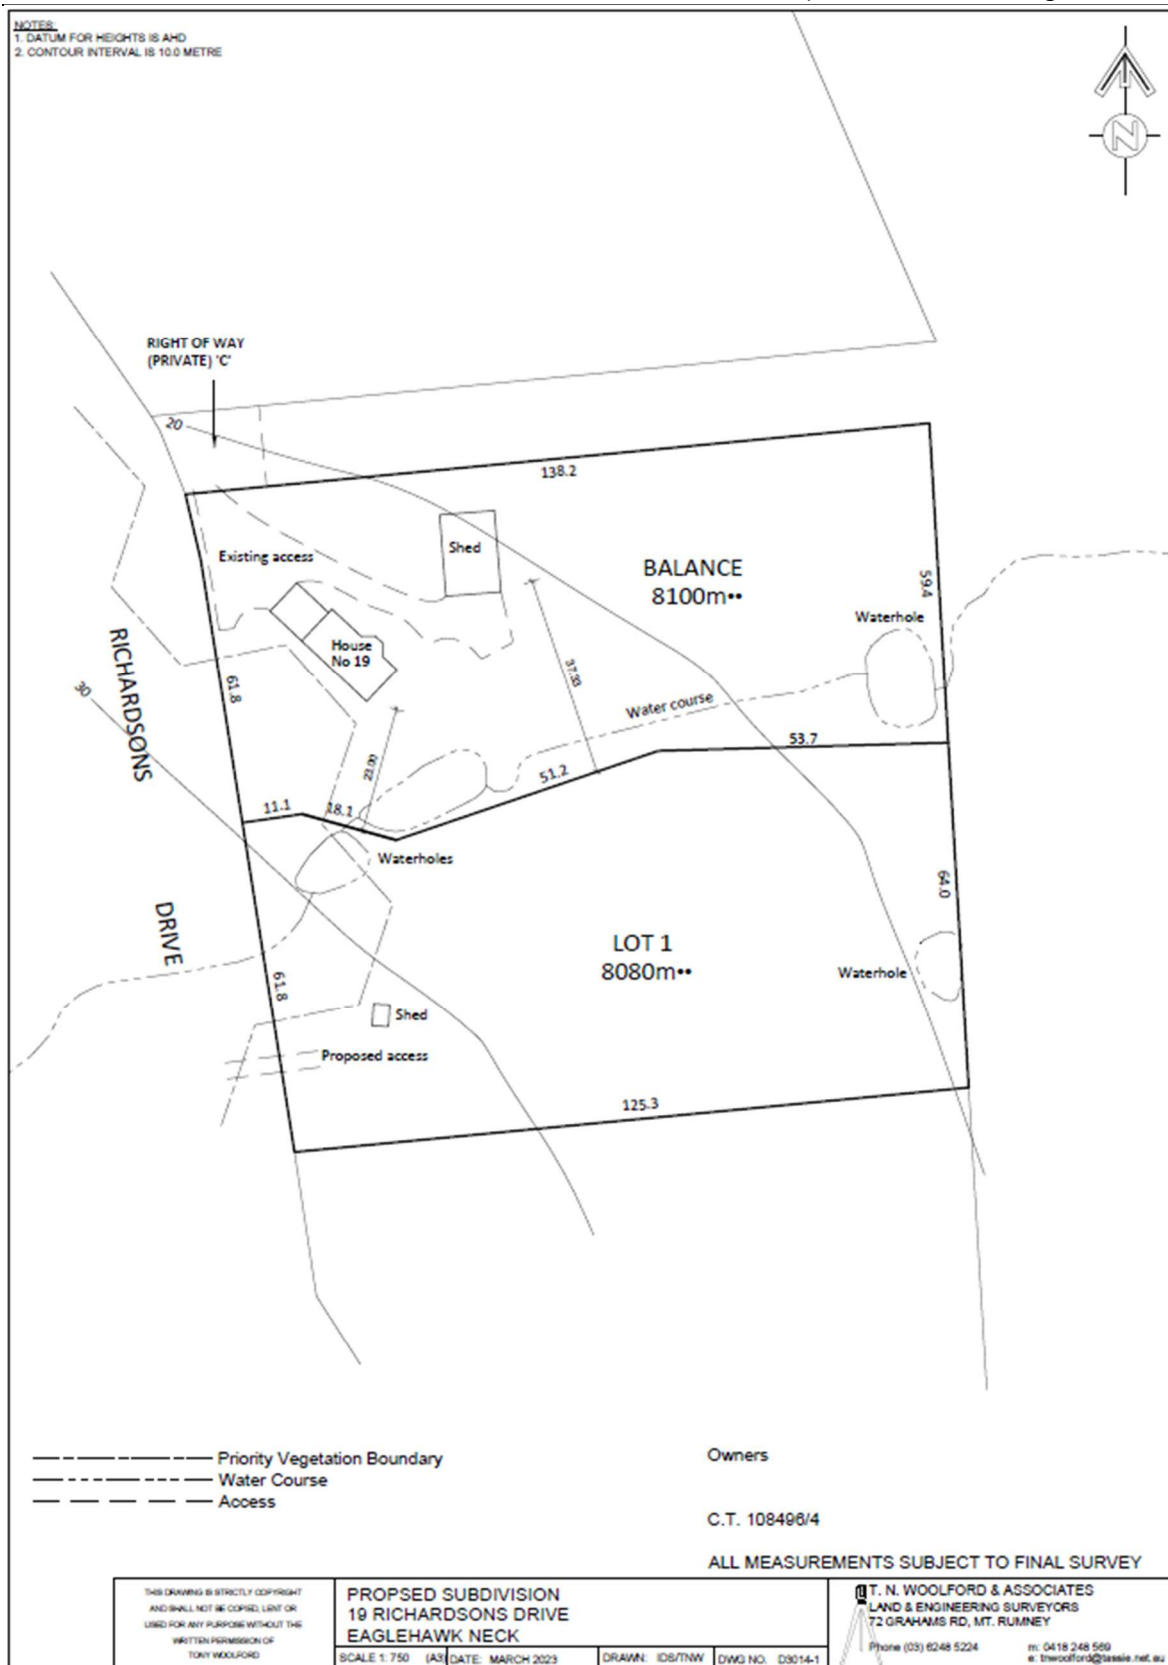

Figure 2: Design for subdivision of 19 Richardson's Drive, Eaglehawk Neck.
The existing vegetation is depicted in Figure 2 and tabulated in Table 1.
Table 1 and Figure 2 indicate the site characteristics for a 100 m radius that have been assessed to determine the bushfire attack level of the building and provide the dimensions for the BHMA for a BAL 19 solution as per Section 2 of AS 3959:2018. All aspects have been resolved to BAL 19 by the bushfire hazard management plan (Appendix 1). The distances from each building area to the northern and western proposed lot boundaries are in Table 2.
**NOTE:** All distances are based on the existing dwelling on the balance lot and notional building area on lot 1 illustrated in Figure 2. This HMP is relevant to this subdivision application and specific location of "notional" building areas illustrated below. Any application to build a dwelling in an alternative location will require a HMP specific to the new location.